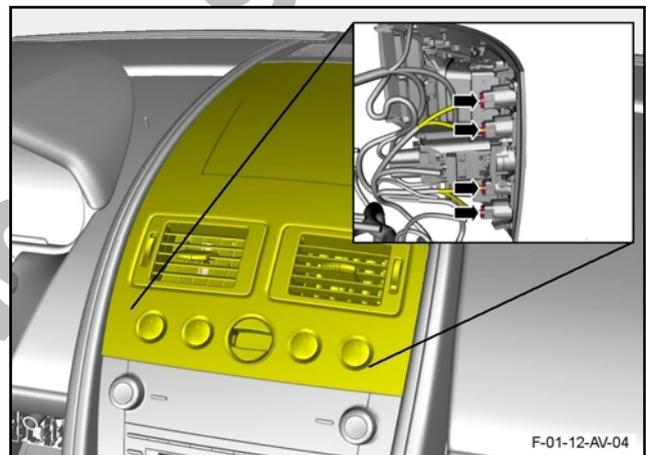

Figure 4
5. Disconnect the electrical connectors from each of the four transmission control switches (Refer to Figure 4).